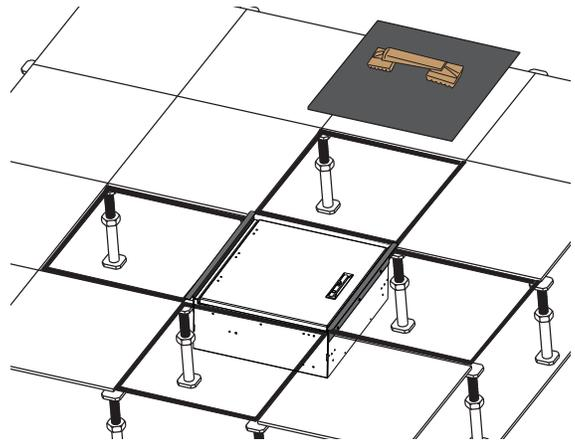

Figure 8
Step 3: Lower housing into center opening of floor tiles (Figure 8). Opening the door and using the interior ledge of the housing as a handle may facilitate installation. The trim plates should rest directly on the floor system posts or “stanchions.”